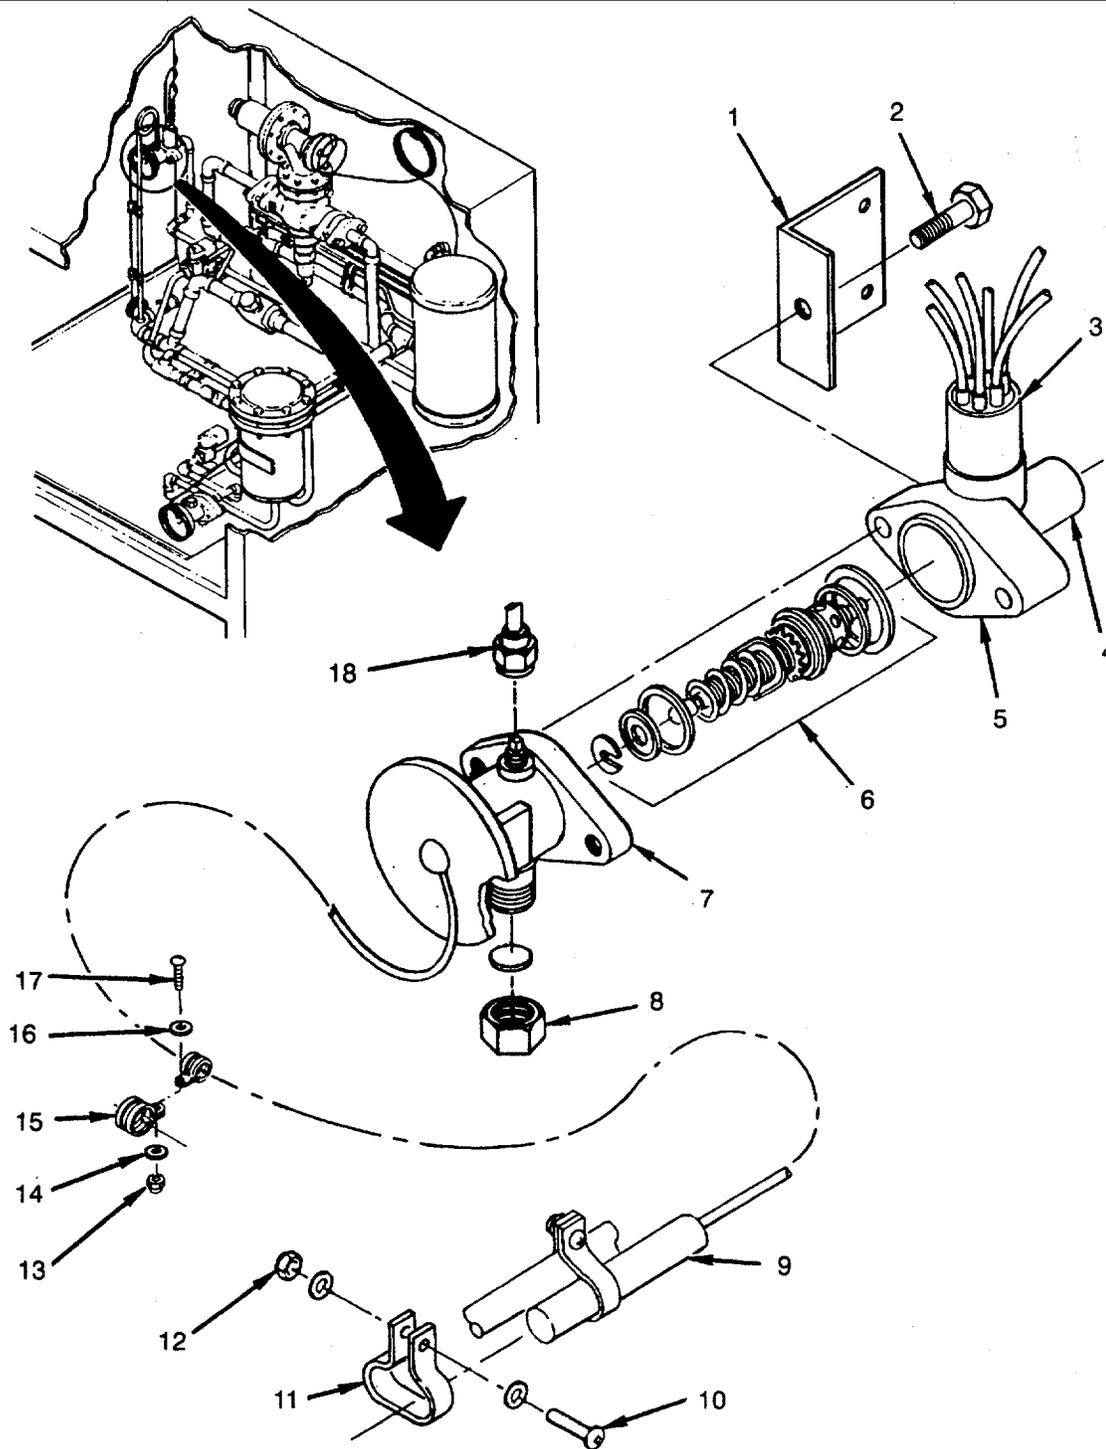

Figure 6-12. Thermostatic Expansion Valve (Primary)
2. Pump down refrigerant system (para 5-21) (see Figure 6-12).